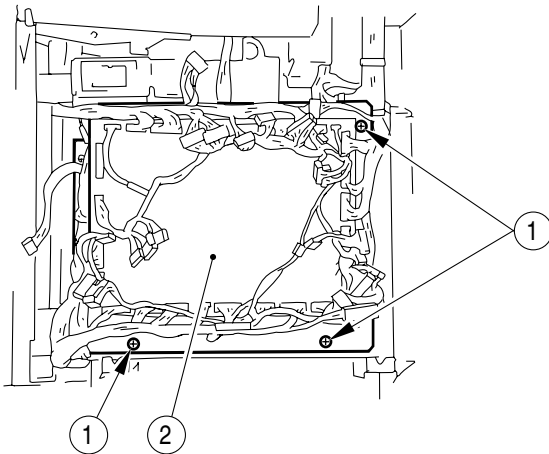

Figure 4-901
- 3) Remove the DC controller PCB. (Figure 4-901)
- 5) Remove the five mounting screws ①, and remove the power supply assembly ②.